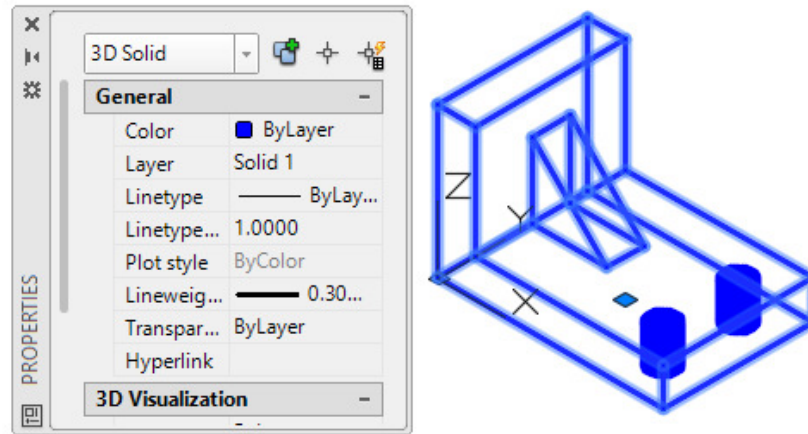

Figure Step 16
Step 16 Open the Properties window and select the solid model. Ensure it is one AutoCAD object only. (Figure Step 16)